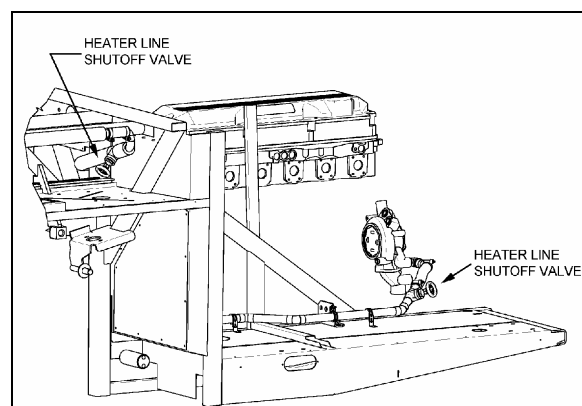
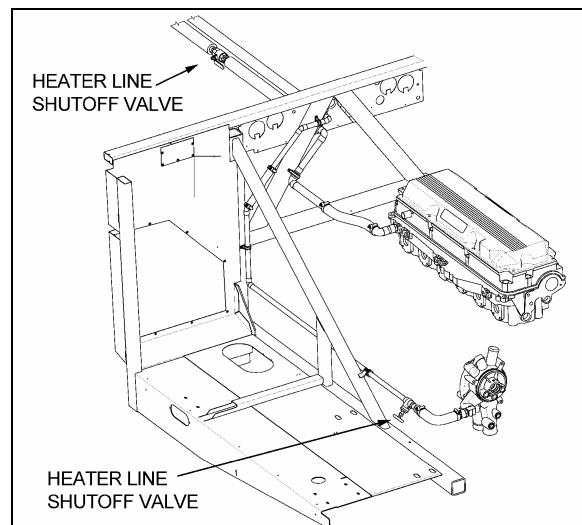

FIGURE 49: HEATER LINE SHUTOFF VALVES (CENTRAL HVAC SYSTEM)
FIGURE 50: HEATER LINE SHUTOFF VALVES (SMALL HVAC SYSTEM)
2. Close both heater line shutoff valves (Figure 49 & Figure 50). One is located in the engine compartment under the radiator fan gearbox, while the other one is located behind the L.H. hinged rear fender near the preheater. Refer to "Preheater System" in this section to gain access to the heater line shutoff valve.